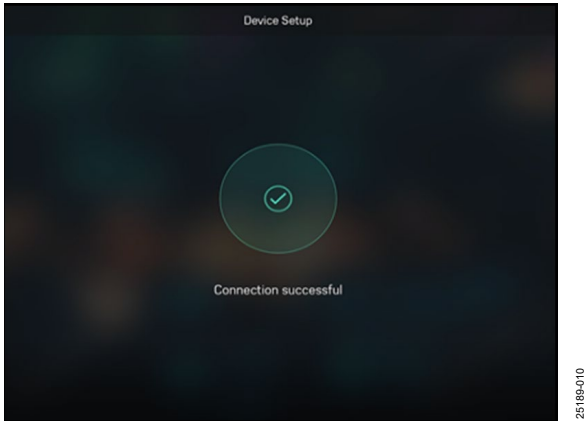

Figure 11. Wi-Fi Connection Successful
7. Enter the Wi-Fi credentials when prompted and click **Connect and Finish** (Figure 11 shows a successful Wi-Fi connection). After the commissioning process, the sensor is registered on the Analog Devices cloud. The sensor automatically restarts and connects to the selected Wi-Fi network to upload the metadata.